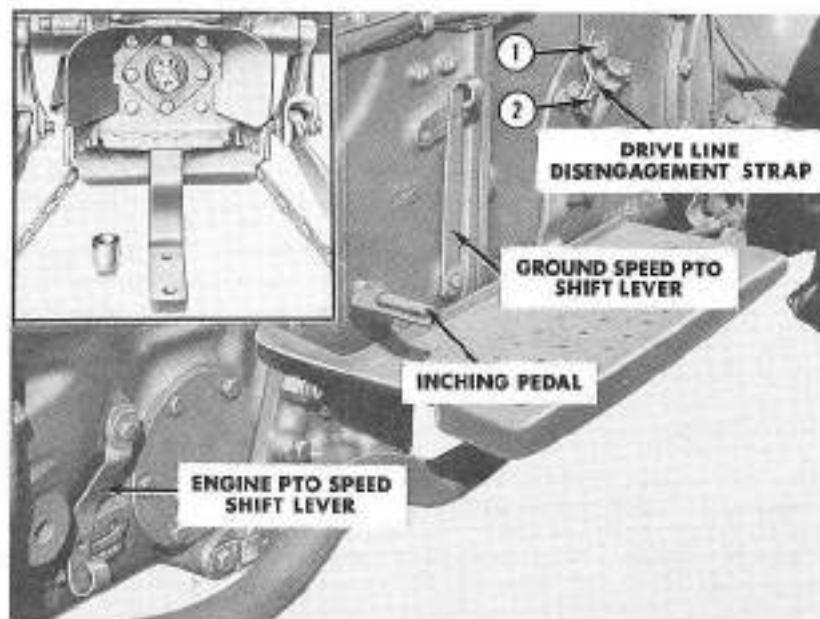

Figure 16
To disengage the transmission, disconnect the traction coupling as follows: Remove the nut (1), Figure 16, and strap; turn the strap over and reinstall on the shaft (2), then rotate the shaft approximately 60° to the rear. Rock the tractor to make sure the transmission is disengaged, and then replace the strap and reinstall the nut to assure that the traction coupling remains disengaged. **DO NOT TOW THE TRACTOR OVER 20 MPH.**
Power Take-Off Shaft: Your Ford Tractor is equipped with a standard P.T.O. shaft ($1\frac{3}{8}$ " diameter) in accordance with A.S.A.E. specifications for attaching P.T.O. driven equipment built to A.S.A.E. standards. A P.T.O. shield, see insert, Figure 16, is available as extra equipment from your Ford Tractor and Implement Dealer. This shield should be used as a safety precaution and serves as the supporting member for pull type implement drive line shields in all operations involving P.T.O. driven implements.
The ground speed P.T.O. is engaged by moving the ground speed P.T.O. shift lever, Figure 16, to the "ON" position, making certain that the P.T.O. control knob is in the "IN" position. The P.T.O. shaft will only turn when the tractor is in motion. Consequently, to ease into P.T.O. loads, it will be necessary to use the inching pedal. **WHEN BACKING THE TRACTOR, THE GROUND SPEED LEVER MUST BE MOVED TO THE "OFF" POSITION.** Failure to do this may result in serious damage to the implement being operated.